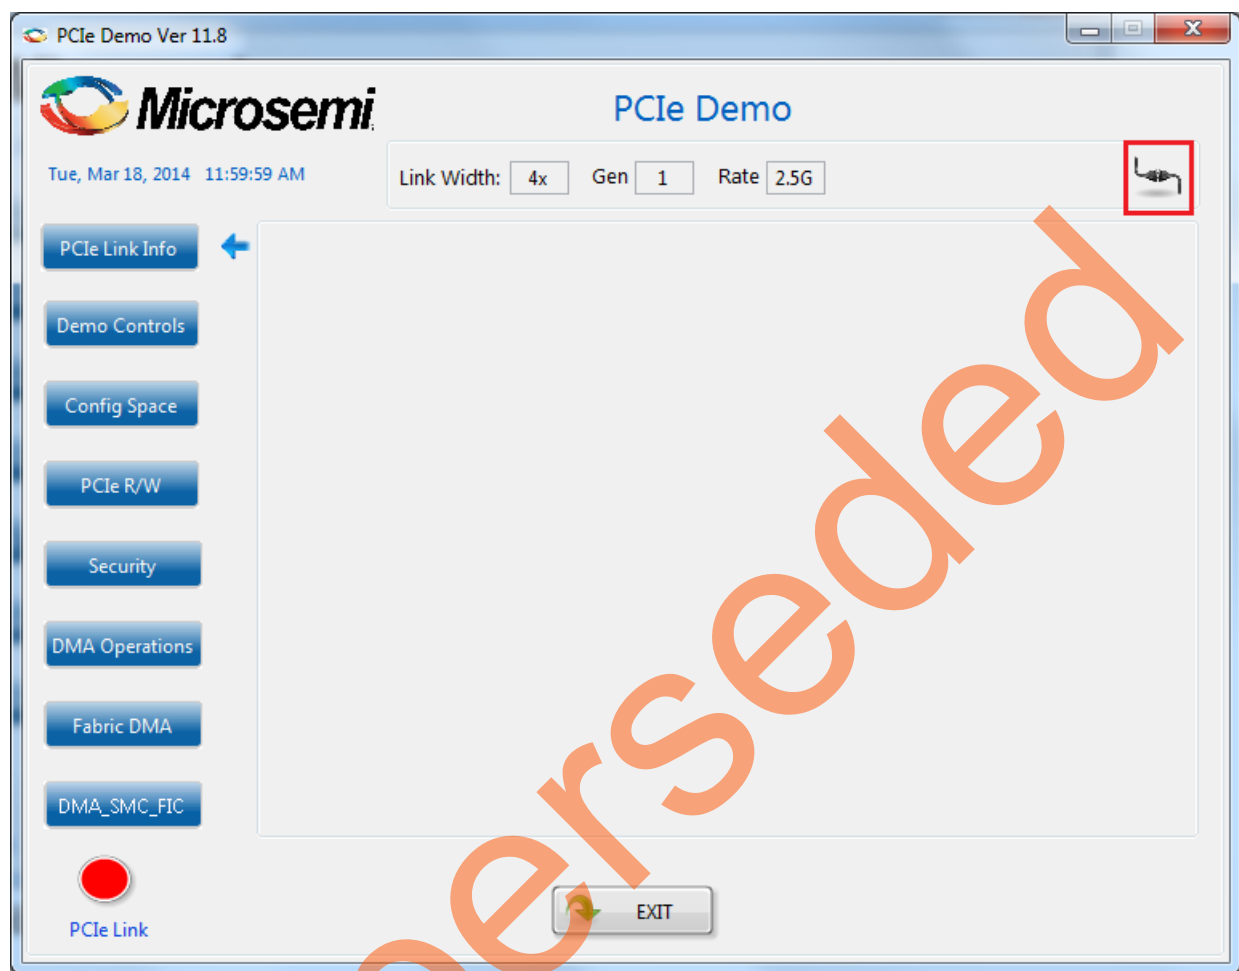

Figure 55 • PCIe Demo GUI
2. Invoke the GUI from **ALL Programs > PCIe Demo > PCIe Demo GUI**. The GUI is displayed as shown in Figure 55.